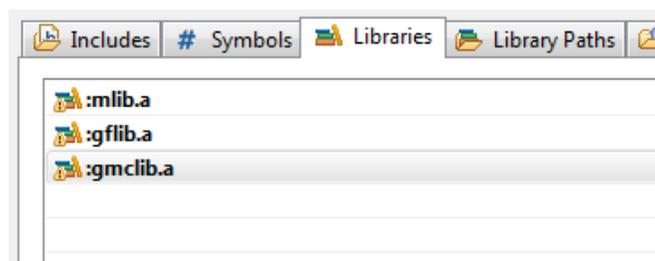

Figure 1-24. Libraries
11. After adding the library paths, add the library files. Click the Libraries tab. See Figure 1-24.
18. Click OK, and you will see the libraries added in the list. See Figure 1-24.